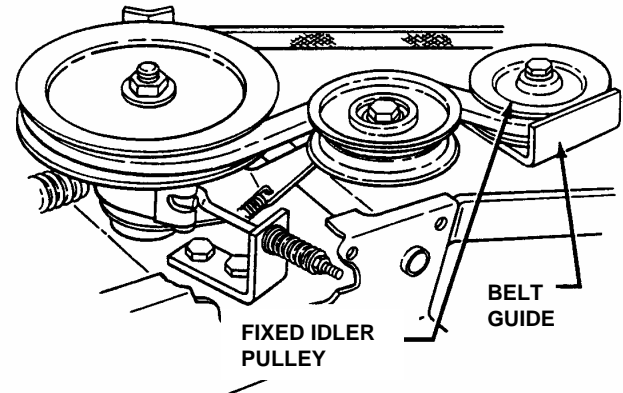

FIGURE 4.13
8. Remove fixed idler. Make sure belt is inside belt guide and idler belt guide. See Figure 4.13.